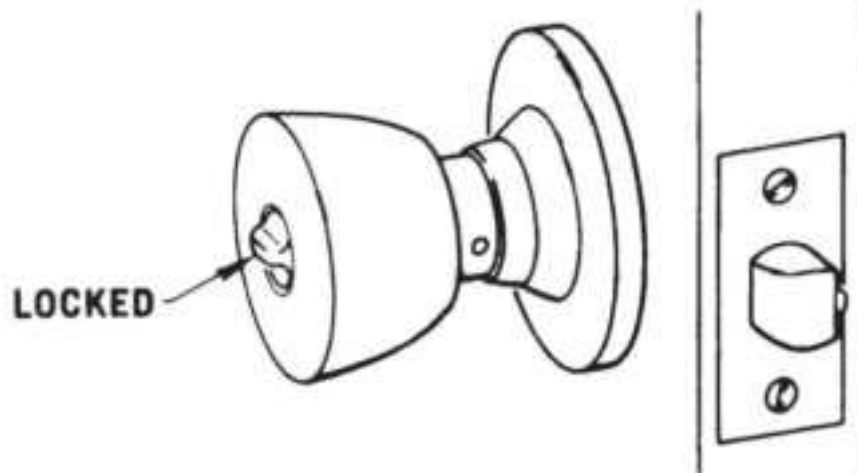

**Figure 13.17** Locking exterior knob.
1. Lock the exterior knob (Fig. 13.17 ).